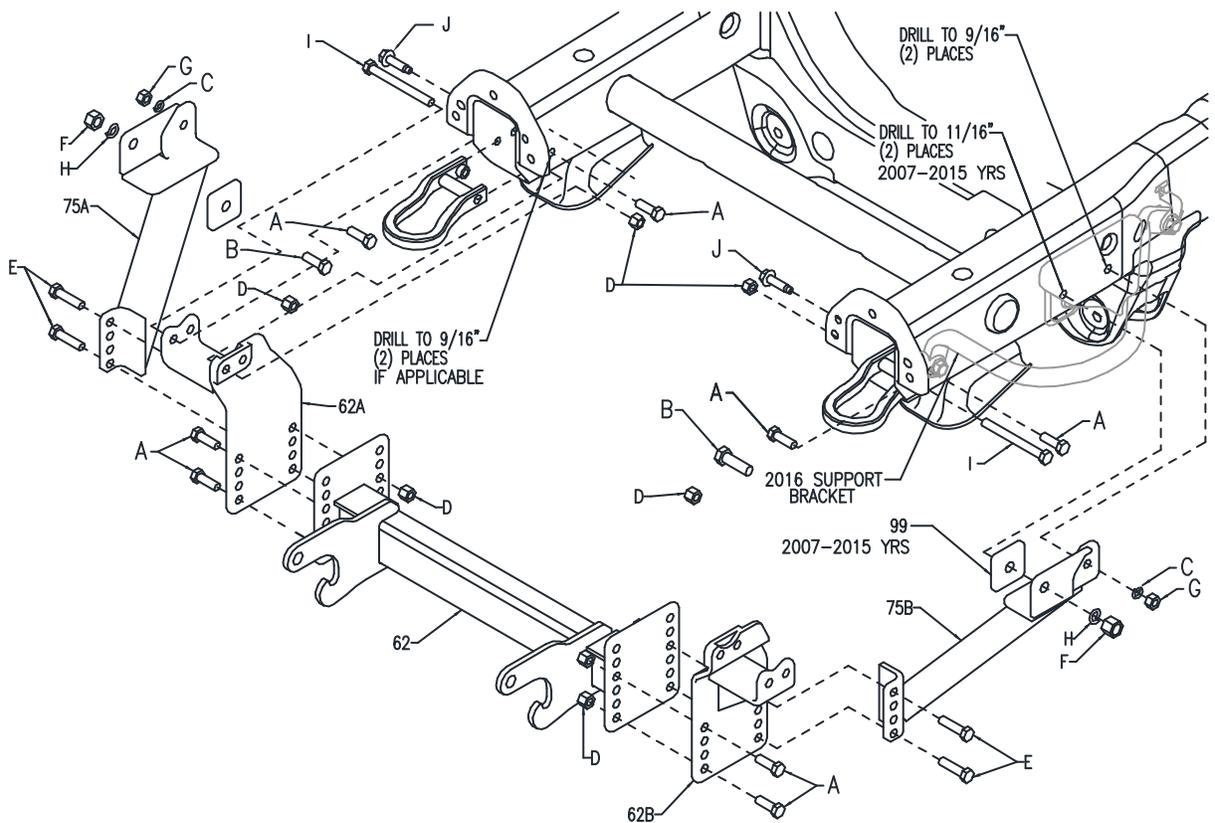

Figure 3
2. Use ½"-13 x 5-½" GR5 Hex Head Bolts (I), ½"-13 x 1-½" GR5 Hex Head Bolts (A), ½"-13 Nylon Lock Nuts (C) and M12x1.75x50mm Hex Flange Bolt (J) to fasten PUSH BEAM SUPPORT PLATES (62A & 62B) in place (see Fig. 3). Drill frame rail for the additional left hand bolt position on PUSH BEAM SUPPORT PLATES. Use ½"-13 x 1-½" GR5 Hex Head Bolts (A) in drilled hole. Fasteners should only be finger tight.
3. For 2016 model, remove middle bolt from Factory Support Bracket (shown in grey in Figure 3), hold ANGLE BRACKET (75A & 75B) in position and reinstall bolt through matching hole in rear of ANGLE BRACKET. Using ½"-13 x 2" GR5 Hex Head Bolts (E) and ½"-13 Nylon Lock Nuts (D) loosely mount ANGLE BRACKETS to PUSH BEAM SUPPORT PLATES. Mark and drill rear mounting hole. Fasten the ANGLE BRACKETS to frame with ½"-13 x 1-½" GR5 Hex Head Bolts (A), ½" Split Lock Washers (C), ½"-13 Hex Full Nuts (G), use Bolt Pullers to guide bolts through frame. Bolts should only be finger tight.
4. Some 2015 models may have frame changes present on the 2016 without the additional Factory Support Bracket. For these trucks, use the provided M14x80MM Bolt (K) and SPACER PLATE (99) to attach the ANGLE BRACKET to the threaded hole in the frame.
5. For earlier models, using ½"-13 x 2" GR5 Hex Head Bolts (E) and ½"-13 Nylon Lock Nuts (D) loosely mount ANGLE BRACKETS (75A & 75B) to PUSH BEAM SUPPORT PLATES. Hold rear of ANGLE BRACKET tight against frame then mark and drill rear mounting holes. Insert the